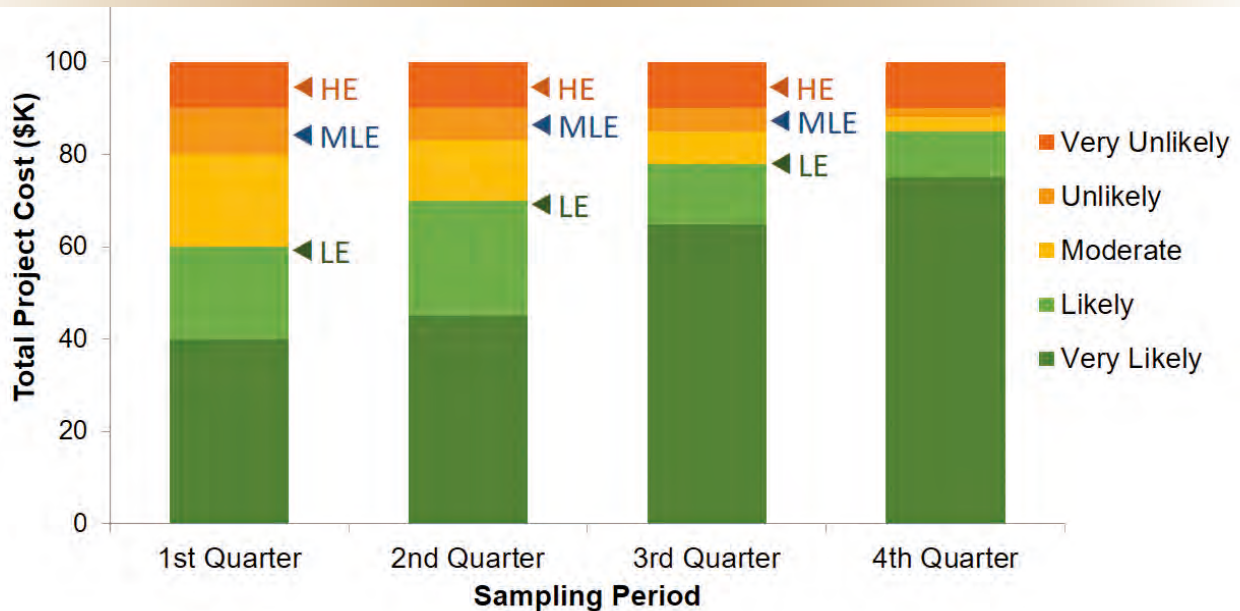

Figure 2. Three Point Estimates over probability spectrum for sampling period
When this step is repeated, the information could be tabulated to produce a trending spectrum of probability costs with the associated scenario bands of the likelihood of spending the total cost of the project as depicted in Figure 2. The high estimate (HE) and low estimate (LE), the upper and lower boundaries, could be mathematically calculated, whereas the most likely estimate (MLE) could subjectively be selected based on the manager's judgement for each instantiation. This is neither a financial nor an accounting step. The manager's understanding and awareness of all the elements impacting the outcomes, and